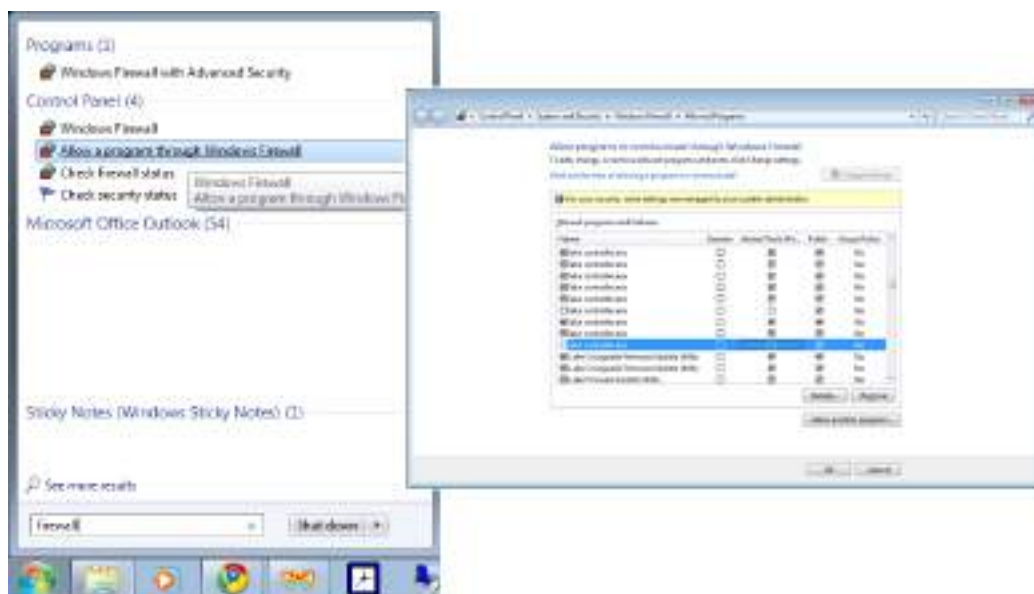

Figure 3-3: Allow a Program through Windows Firewall (via Win 7 Search)
1. Type “firewall” into the Windows 7 search feature as shown in Figure 3-3.